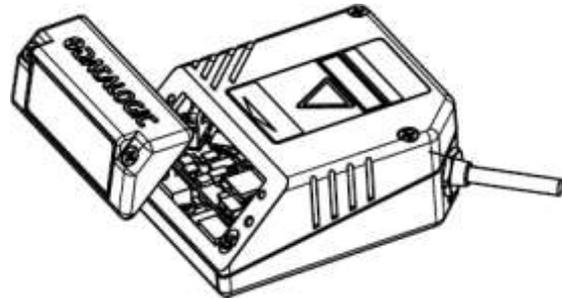

Figure 32 – Remove Scanning Window
- 2) Remove the scanning window from the scanner (see Figure 32).